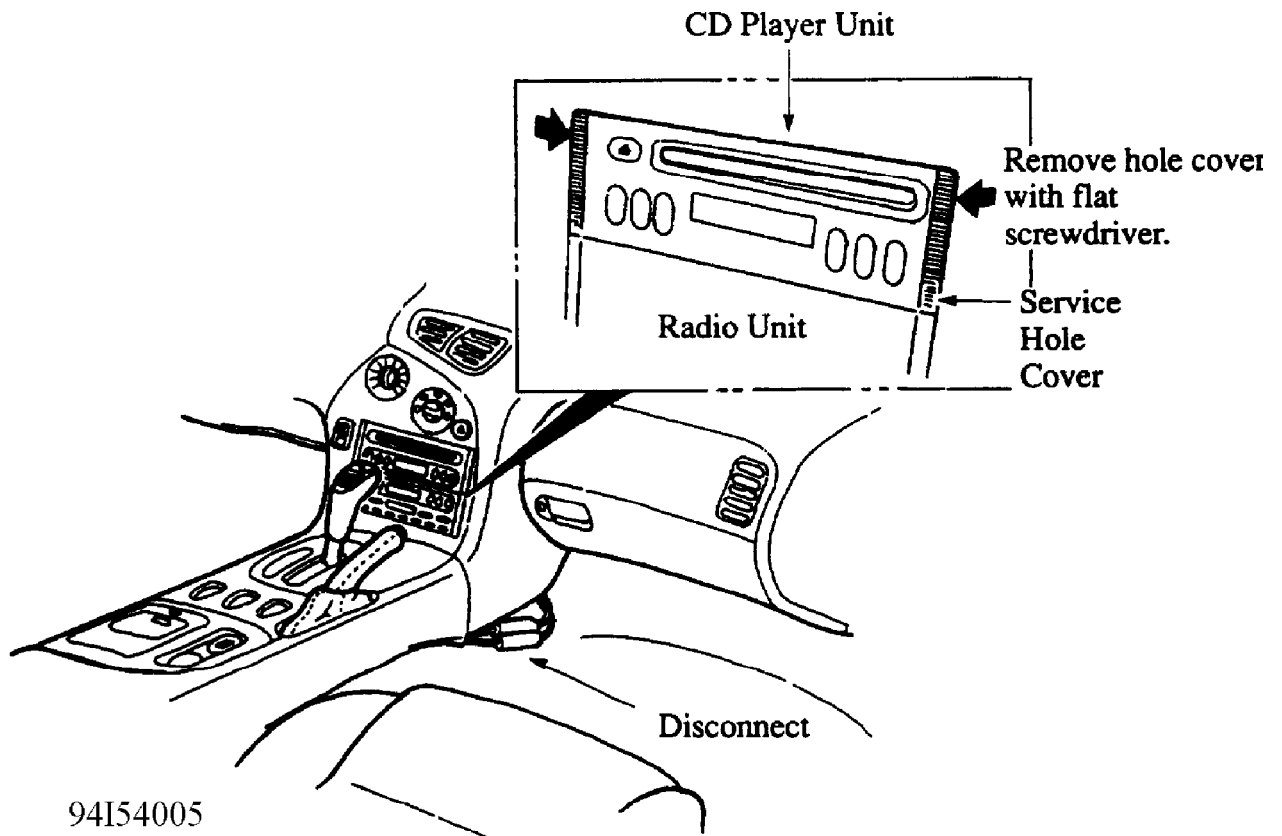

Fig. 3: Hole Cover Removal
5. Remove the service hole covers from both the radio and CD player using a small, flat blade screwdriver wrapped with tape. See Fig. 3.